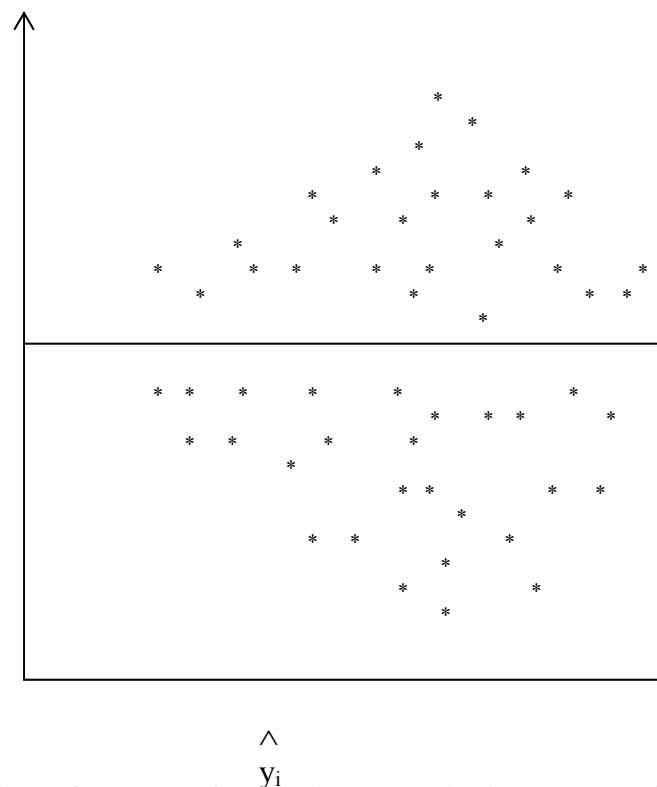
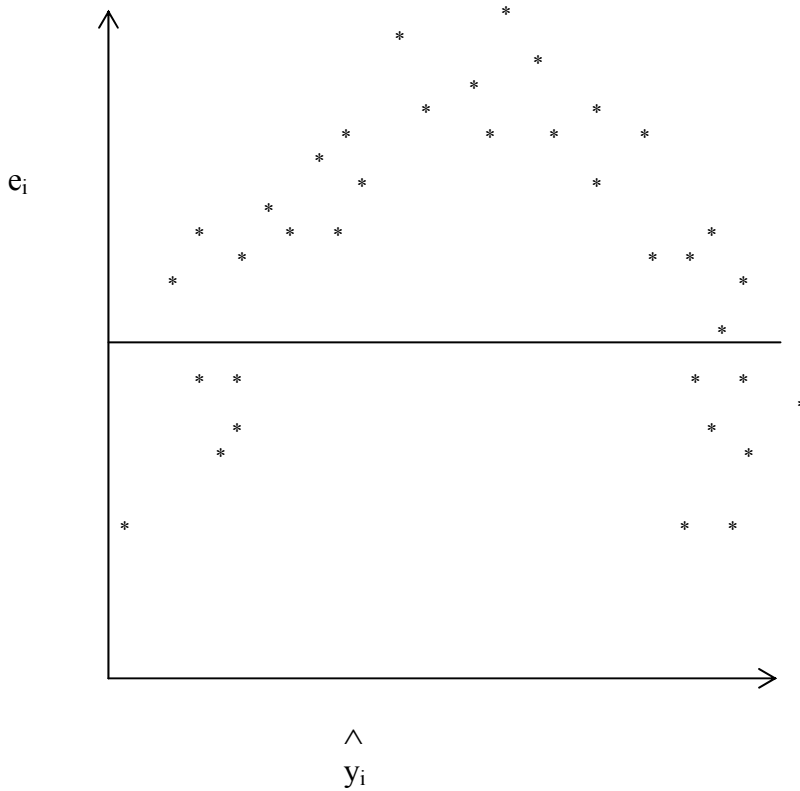

**Figure 6 Pattern of the residual plot; satisfactory.**
**Figure 7 Pattern of the residual plot; indicates the variance is gradually increasing this case**
- against the independent variable  $x$ . These graphs will usually look like one of the four general patterns as shown in the Figures 6 – 9.
The Figure 6 indicates that the residuals are behaving in satisfactory manner and the model assumptions can be assumed to be correct. The Figures 7 – 9 given below indicate unsatisfactory behaviour of the residuals. The Figure 7 clearly indicates that the variances are gradually increasing. Similarly the Figure 8 indicates that the variances are not constant. If the residuals plot is like the Figure 9, then it seem the model order is not correct, that means, the first order model is not the correct assumption. We should look for higher order models.